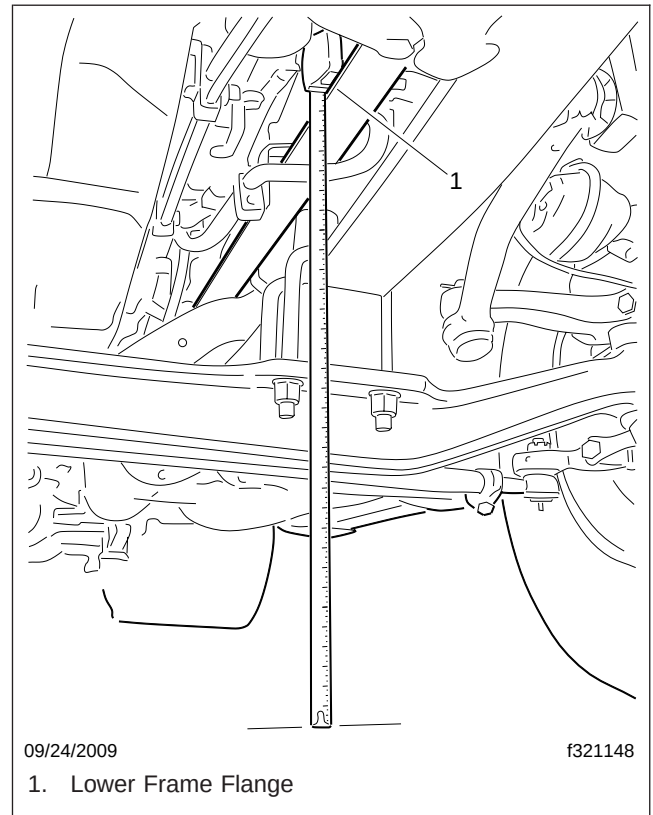

Fig. 1, Measuring Frame Height
6. Measure the distance from the bottom of the lower frame flange to the ground, forward of the front axle center line. This is frame height. **See Fig. 1.**